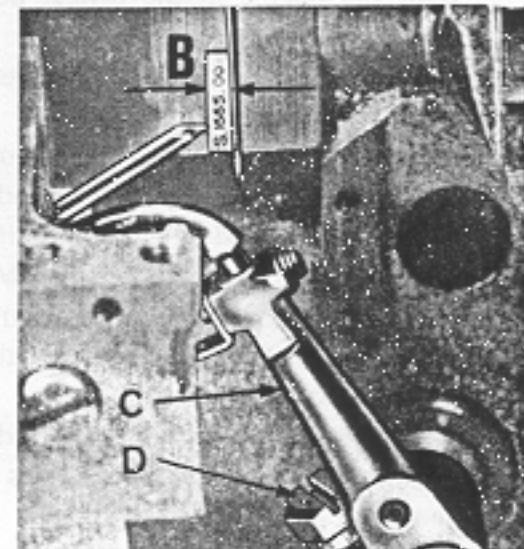

fig. 6
**Positioning the looper with respect to the needle fig.6.**